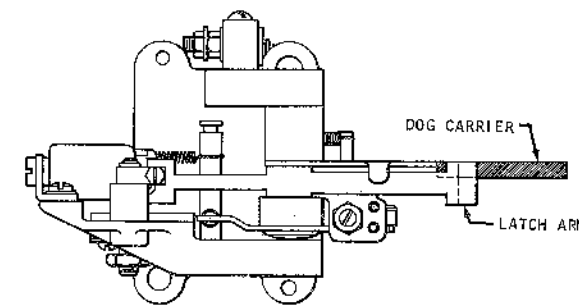

Figure 28. Clutch Arm and Dog Carrier Relationship
- a. At the same time position the unit sideways so that the keeper is flush with the edge of the dog carrier within .010" (Figure 28).